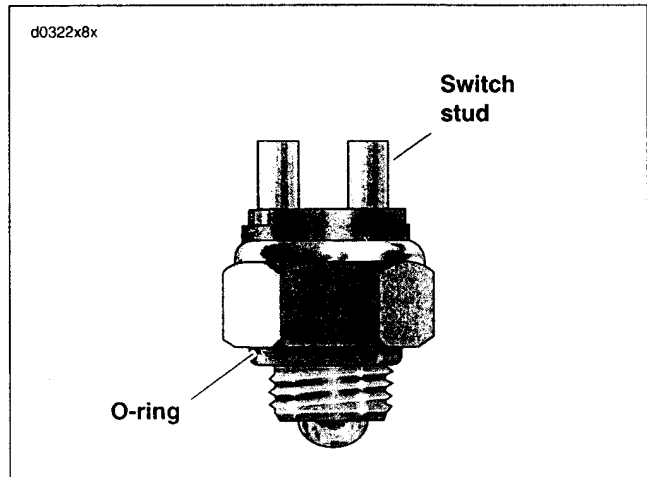

Figure 8-65. Neutral Switch
2. See Figure 8-65. Using fingers, remove connectors from switch studs.
1. See Figure 8-65. Lubricate O-ring with transmission oil.